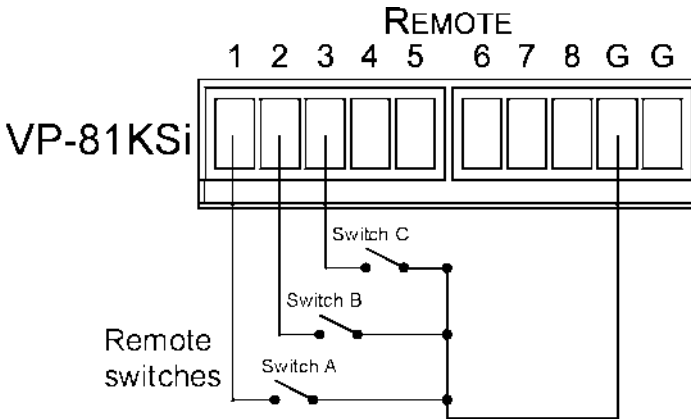

Figure 6: Remote Input Selection Switch Wiring
The following example (see Figure 6) illustrates three switches (A, B and C) connected to remotely controlled inputs 1, 2 and 3 respectively (up to eight switches can be connected). Pressing switch A causes input 1 on the **VP-81KSi** to be the active input, pressing switch B causes input 2 to be the active input, and pressing switch C causes input 3 to be the active input.
**To connect remote input selection switches as illustrated in the example in Figure 6:**